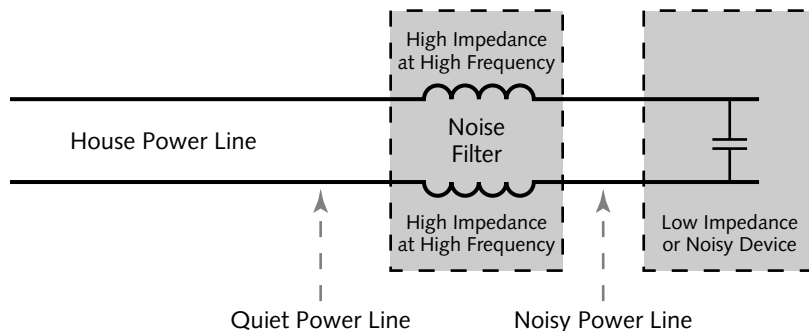

FIGURE 1-7: X-10 filtering
Signal attenuation comes from other sources, too, because many types of devices on the power line will themselves attenuate the X-10 signal. Relatively small capacitances in power supplies and other electronic circuits look like high impedances to the normal 60 Hz power waveform, but may look like a low impedance to the 120 kHz signal and therefore reduce its strength considerably. The effects of each such small loss add together, too, so while no one computer, television, or other device may be enough to make your system unreliable, a large enough number of them may. You need a *filter* to fix this problem. Filters work as shown in Figure 1-7. Coils are the dual of capacitors, in that their impedance goes up with higher frequency, while a capacitor's impedance goes down. Putting a small inductance coil in series with each wire in
the power line lets the power flow without hindrance, but blocks noise and the 120 kHz signal. The filter blocks any X-10 signal present on the power line on the left in Figure 1-7, keeping that signal from being attenuated by the low impedance capacitance in the device on the right.
- **Noise Filter**—A simple noise filter works along the lines of Figure 1-7, keeping power line noise from crossing the filter in either direction. You can use one to isolate a noise source from the rest of your system, or to isolate a malfunctioning device from high levels of noise on your overall system. Some noise filters allow signals at the X-10 120 kHz frequency through, but block nearby frequencies, while full-spectrum filters block frequencies above the power line 60 Hz.